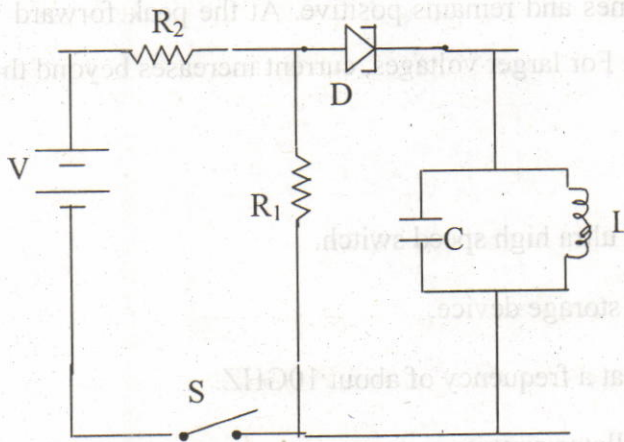

Fig.3.13 Tunnel diode oscillator
As V_T exceeds V_p , diode is driven in to negative resistance area and its resistance starts to increase. Hence, V_T increases further till it becomes equal to value voltage (point B). Further increases in V_T drives the diode in to positive resistance region (BC). The resulting increase in current now increases V_R but correspondingly decreases V_T . This brings back the diode in to the negative resistance region. The decrease in V_T increases the circuit current till point A is reached when V_T equals V_p . This is one cycle of operation. In this way, the circuit will continue to oscillate and the out put across R is like a sine wave. Fig.3.13 shows a practical circuit. Here R_2 sets the proper current for it. As the switch S is closed, the diode is set into oscillations, whose frequency equals the resonant frequency of the tank.